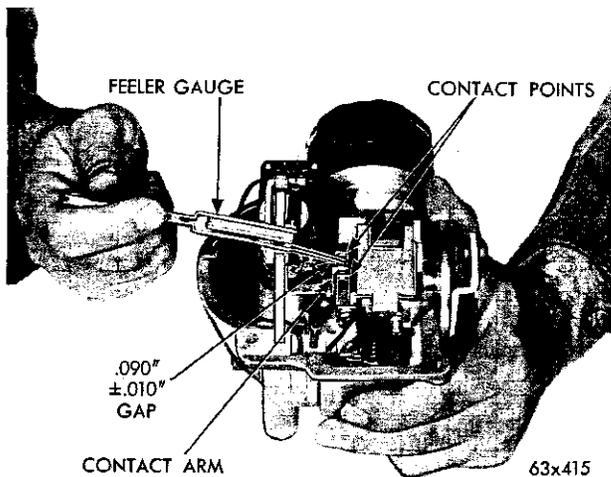

Fig. 30—Contact Point Adjustment (Full Gap)
(1) Disconnect the drive cable at the base of the power unit.
(2) Move the contact arm against either contact point and use a feeler gauge to measure the full gap between contact arm and other point (Fig. 30). This gap must be $.090 \pm .010$ inch. If the gap is not within specifications, bend either contact point on the magnet assembly until the proper gap is obtained.